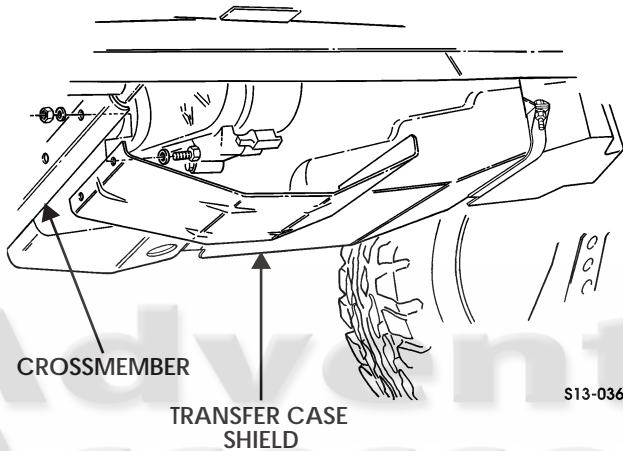

Figure 13-39: Transfer Case Shield
Remove two locknuts, washers, capscrews, washers, and transfer case shield from crossmember. Discard locknuts (Figure 13-39).
Install transfer case shield on crossmember with two washers, capscrews, washers, and locknuts (Figure 13-39).
4. Install spacer between rear footwell and underbody skid panel if necessary. Tighten nuts at front and rear footwells to 37 lb-ft (50 N•m) (Figures 13-39 and 13-42).